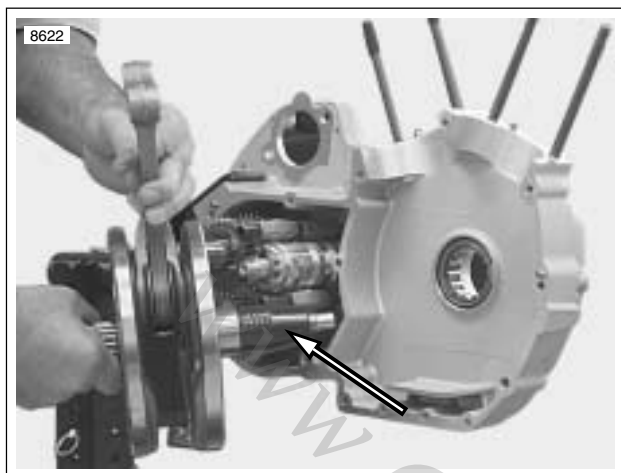

Figure 6-88. Installing Flywheel Assembly Using Crankshaft Guide Tool (Part No. HD-42326)
1. See Figure 6-88. Install the flywheel assembly into the left crankcase half using CRANKSHAFT GUIDE TOOL Part No. HD-42326.